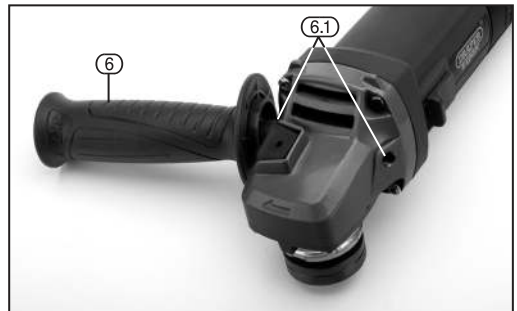

FIG. 1
6.1 FITTING AUXILIARY HANDLES – FIG. 1